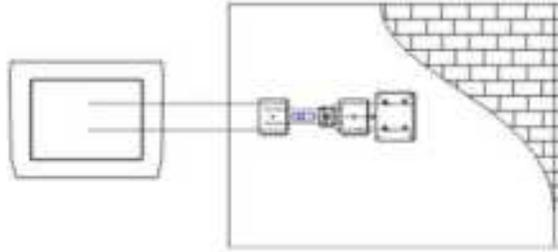

Figure 7: With Wall Mounting
- Installation with optional wall mounting accessory (see figure 7).